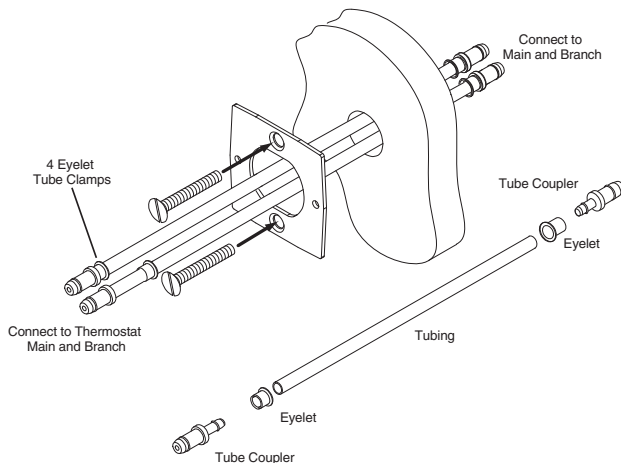

Figure-2
- Connect the assembly by inserting the tube couplers into existing tubing in the wall (Figure-2). Note which connection is Main and which connection is Branch.